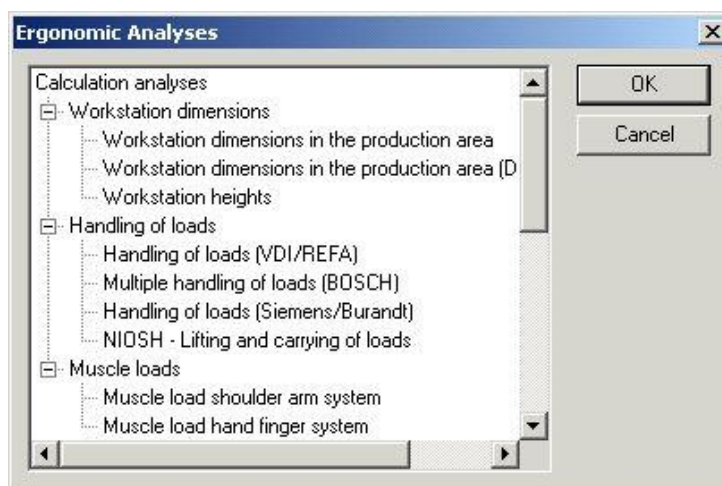

Figure 274: Ergonomic Analyses Selection Window
- 2) The **Ergonomic Analyses** selection window opens (Please refer to the Figure 274).